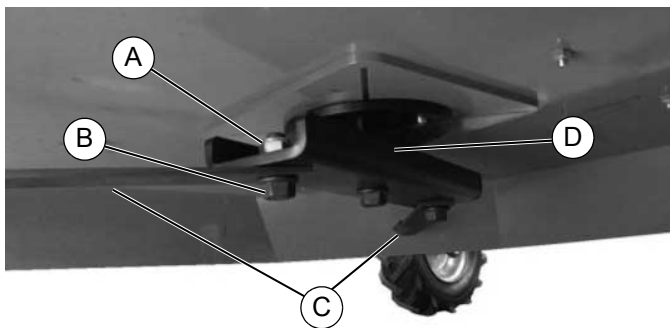

Figure 4-13. Swing Blades and Blade Carrier
- See Figure 4-13. Remove bolt (B) and lock nut (A) securing swinging blade (C) to blade carrier (D) using two 1-1/8" wrenches, and remove blade.